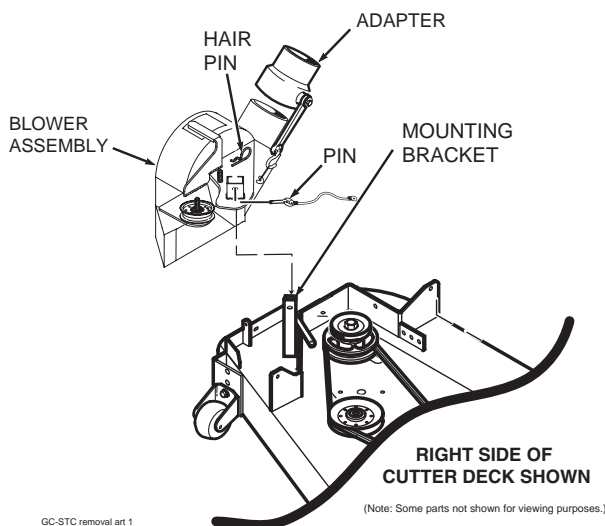

Figure 4-1
3. Remove the rubber strap holding the adapter to the blower assembly. See Figure 4-1.
4. Remove the mounting pin and hair pin holding the blower assembly to the mounting bracket on the cutter deck and remove the blower assembly. See Figure 4-1.